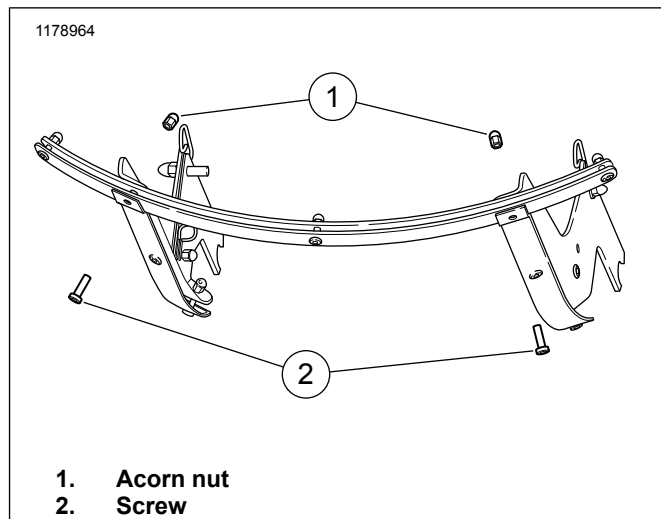

Figure 2. Screw Removal (Shield Removed for Clarity)
3. See Figure 2. Remove screw (2) and acorn nut (1) and discard.